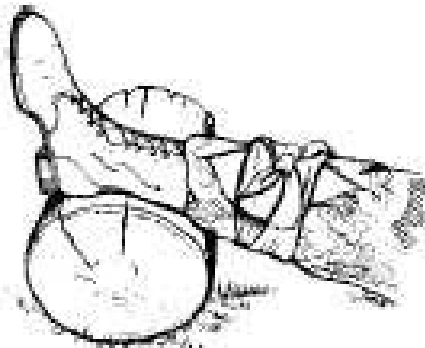

Figure 2-30. Ends of improvised dressing tied together in nonslip knot.
- c. Tie the ends together in a nonslip knot, directly over the wound site (Figure 2-30). **DO NOT** tie so tightly that it has a tourniquet-like effect. If bleeding continues and all other measures have failed, or if the limb is severed, then apply a tourniquet. Use the tourniquet as a **LAST RESORT**. When the bleeding stops, check for shock; administer first aid for shock as necessary.